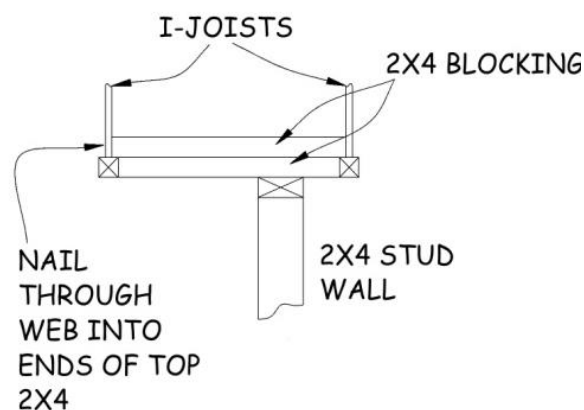

Figure 6-6. Blocking for Attaching Basement Walls Between I-joists.
7. Walls parallel to the I-joists require blocking at the top. Nail 2x4s between the bottom I-joist flanges at 24” O.C., flush with the bottom of the I-joist flange. See Figure 6-6.